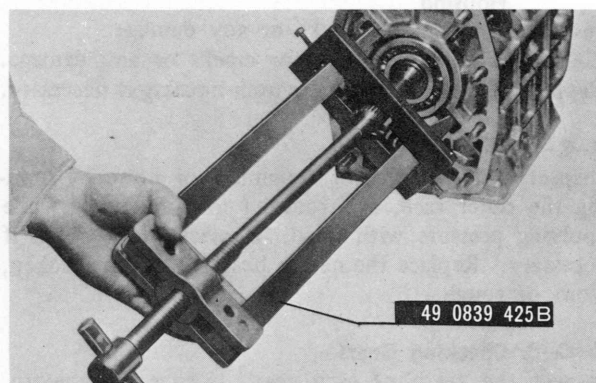

Fig. 7-6 Removing main drive shaft bearing
28. Using the puller (Part No. 49 0839 425B) shown in Fig. 7-6, remove the main shaft bearing.